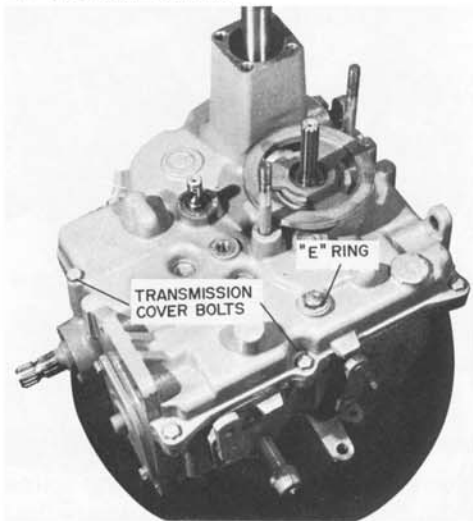

Figure 7
10. Remove the "E" ring shown in fig. 7. Remove the bolts securing the transmission cover to transmission case and lift the cover from the case. If difficulty is experienced in removing the cover, tap the protruding shafts with a soft hammer.